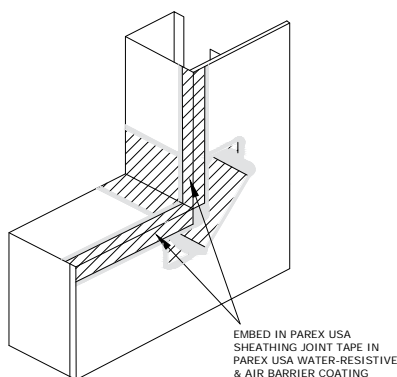

Fig. 10.4
- Fold the bottom flap down over the sheathing. Fold the end flaps against the sheathing (Fig 10.4).
- Repeat the third step for the jambs by coating the jambs with Weatherseal and installing a piece of Sheathing joint tape to the jamb and wrapped at least 2 in. (51mm) onto the sheathing such that it laps the sill piece and continues up past the head opening at least 4 in. (102mm) (Fig 10.4).